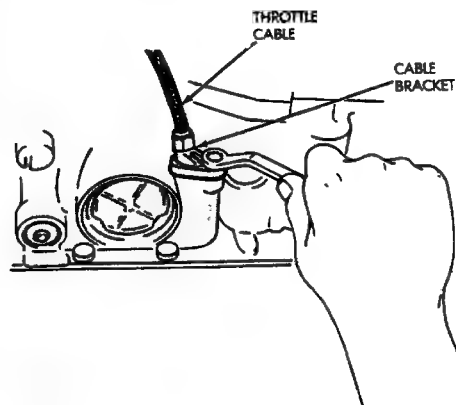

Fig. 28 Removing/Installing Cable And Bracket
(5) Remove cable bracket bolt and remove cable and bracket from case (Fig. 28).
(6) Remove and discard cable seal.
(4) Install cable bracket on case and tighten attaching bolt to 10 N·m (7 ft-lbs) torque (Fig. 28).